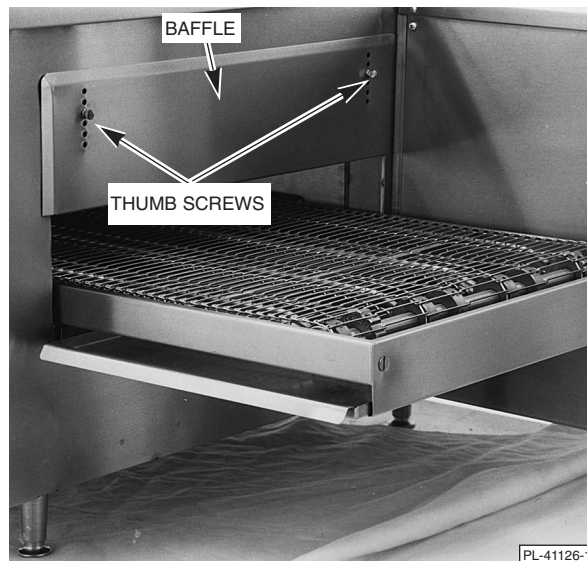

Fig. 2
A baffle (Fig. 2) is located on each end of the oven. It can be adjusted higher or lower to accommodate the height of the product being cooked.
1. Loosen the two thumb screws (Fig. 2) - use insulated gloves.